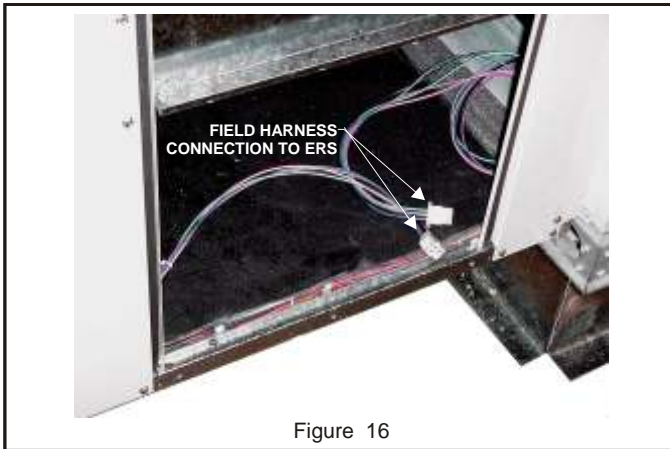
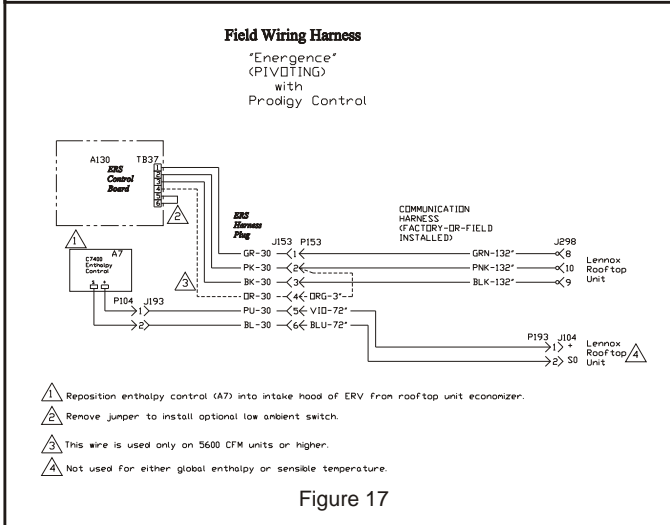

Figure 16
Figure 17
- Remove the control access panel and locate the 6-pin connector P153 wiring harness that was previously routed into the return air of the rooftop unit. Plug the harness connector P153 into the connector J153 located at the bottom of the access door inside the ERS. **See Figure 16 and Figure 17.**